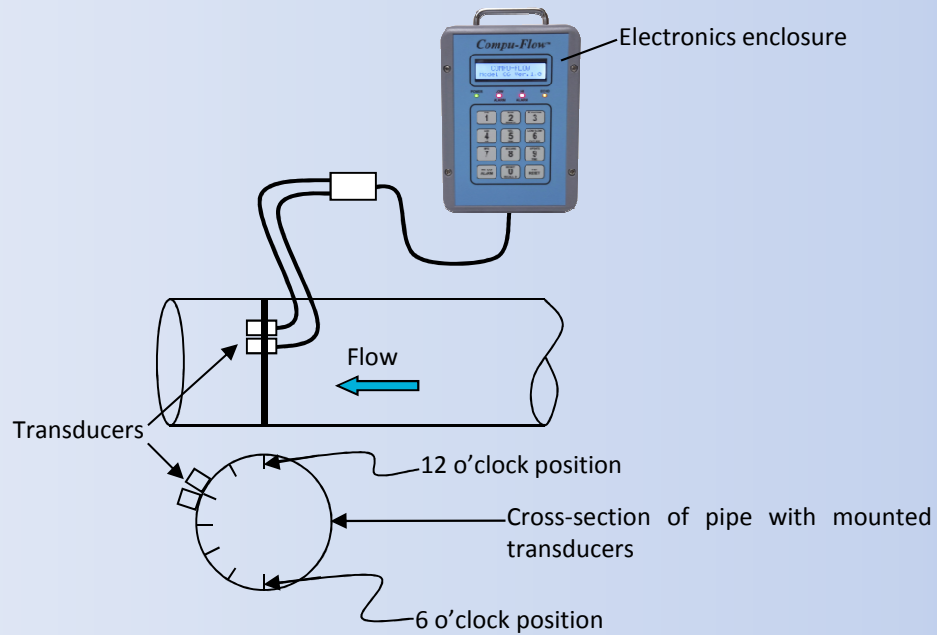

Figure 2. Clamp-on transducer placement
3. Place the transducers side by side between 7 o'clock and 10 o'clock on the pipe as shown in Figure 2. Place the transducers flush to the pipe, facing the same direction. See Figure 3 for an example.
Note: Be careful with transducer placement. Air bubbles near the top of the pipe or sediment on the bottom of the pipe can hinder successful flow readings. Place the transducers as shown in Figure 2.